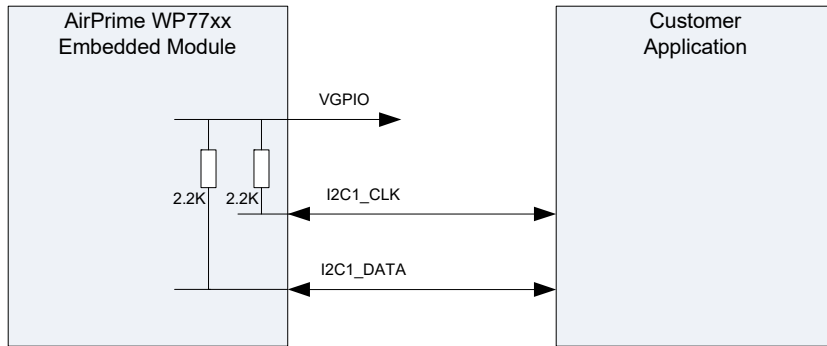

Figure 4-3: Example of I²C Bus Application
- I²C signals are implemented internally as open drain outputs (per the I²C specification) with 2.2 k Ω pull-up resistors to VGPI0 (see Figure 4-3 on page 67).